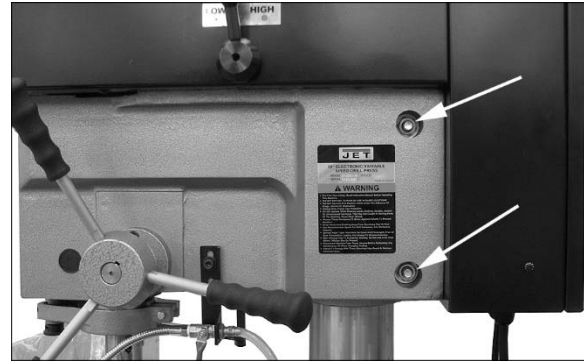

Figure 5-1
1. Loosen two head locking nuts (Figure 5-1) by turning counterclockwise.
6. Securely tighten the two head locking nuts (Figure 5-1). The 2x4 can now be safely removed.